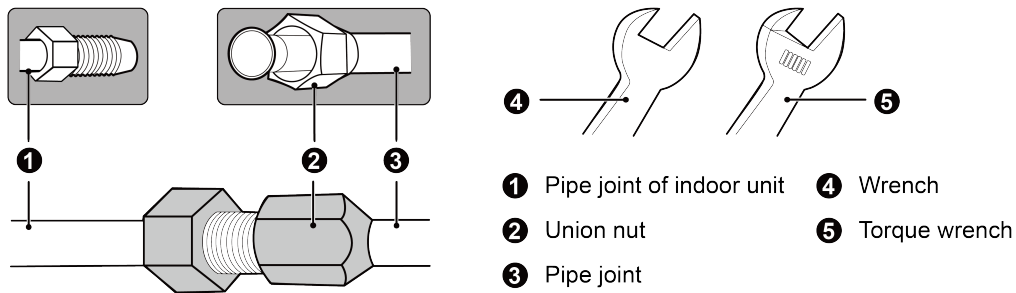

Fig.4.3.2
- (1) Aim the flaring port of copper pipe at the center of screwed joint and then tighten the flaring nut with hand as shown in Fig.4.3.2
- (2) Tighten the flaring nut with torque wrench.